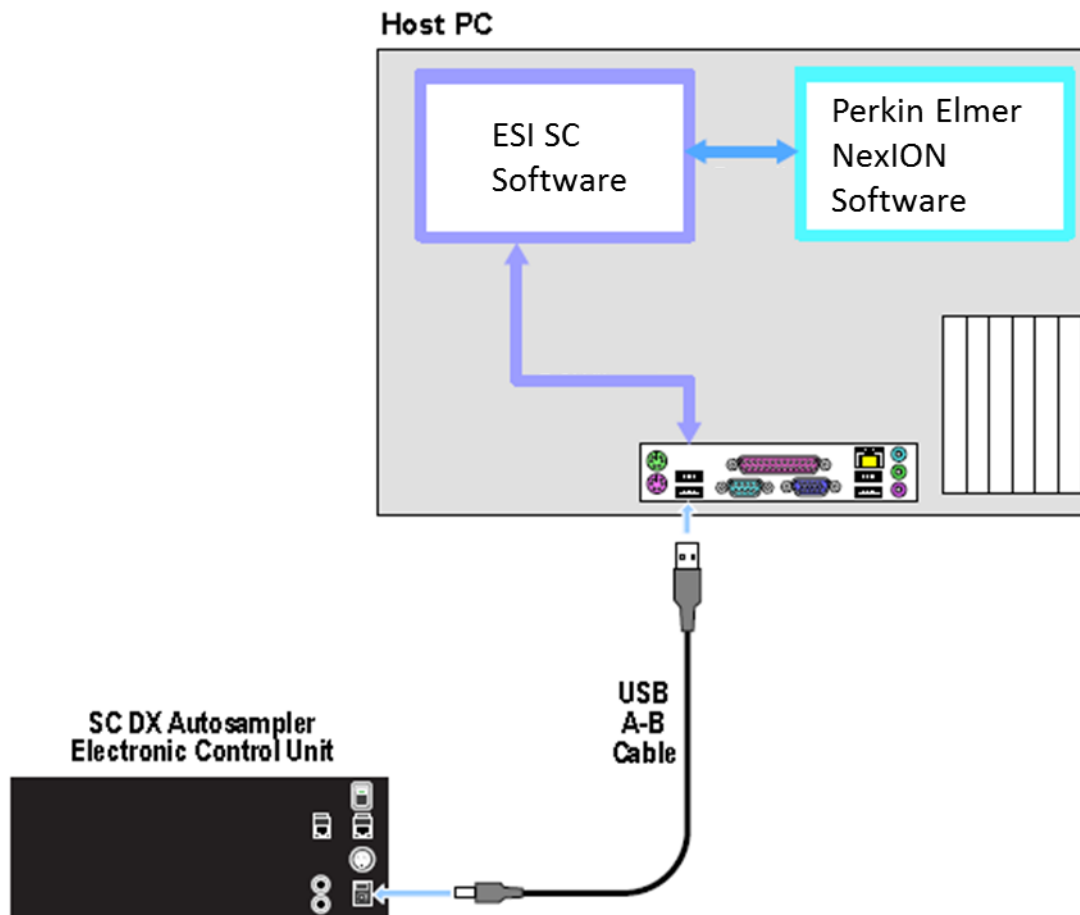

Figure 27: Connections for SC with NexION.
- 2) Connect the USB cable from the computer to the SC Autosampler control unit. See Figure 27. Connect 24 V DC power to the SC Autosampler. Turn on the SC Autosampler.